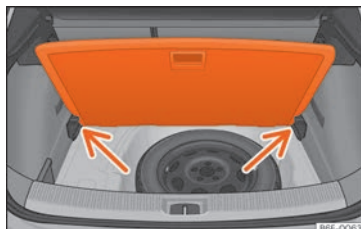

Fig. 111 Variable luggage compartment floor: inclined position.
- Rest the floor on its housings » **Fig. 111** [arrows].